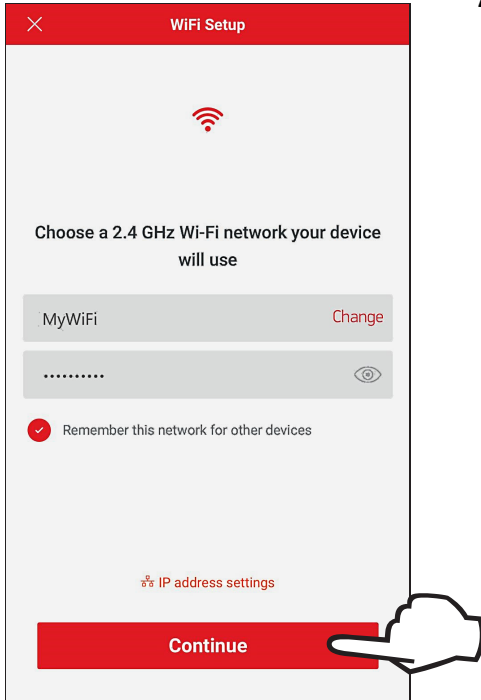

Figure 92. Wi-Fi Setup
- 4. The "Wi-Fi setup" screen will appear. Select or enter the Wi-Fi network you want your unit to be connected to and enter the network password. See **Figure 92**.